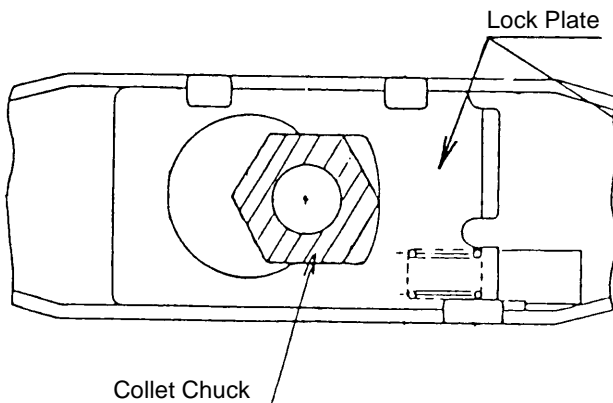

Fig. 16
(8) Remove the Lock Plate (58):
- (a) As the Collet Chuck (60) prevents the Lock Plate (58) from being removed, as illustrated in Fig. 16, first remove the Collet Chuck (60).